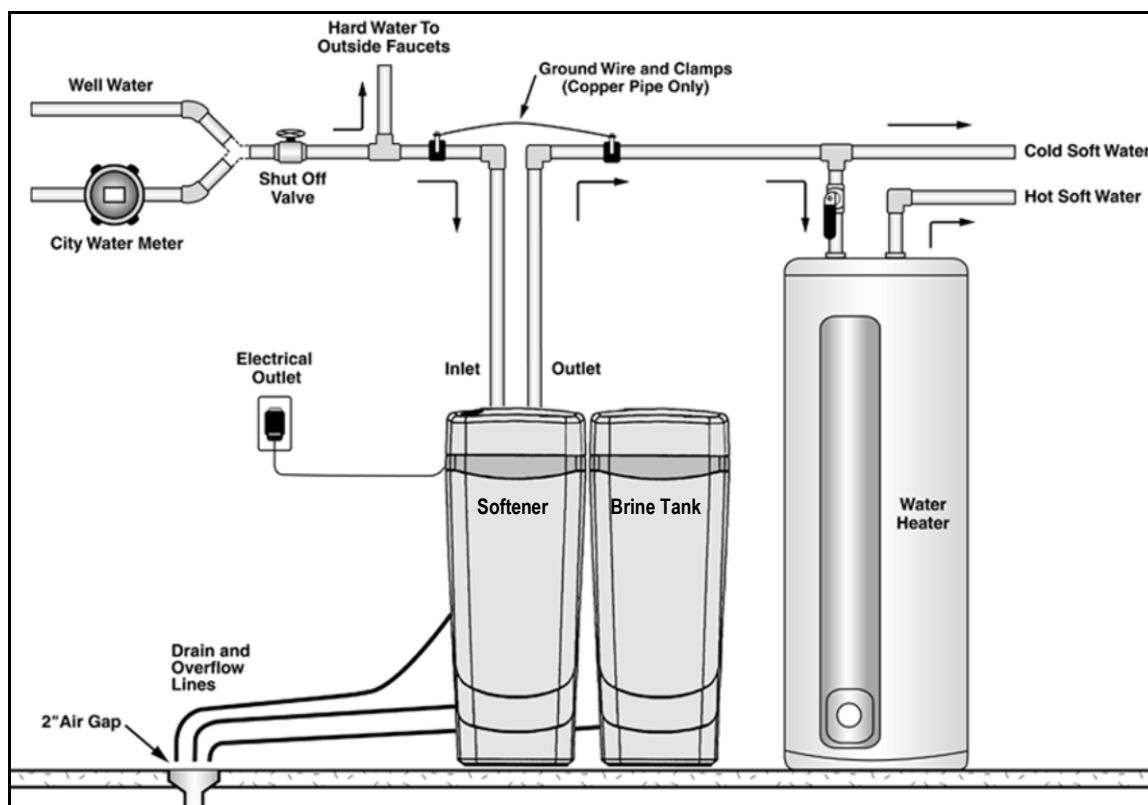

Figure 2: Appliance Placement
- F. Place the appliance in the desired location using Figure 2 as a guide. The diagram in Figure 2 applies to basement, slab, crawl space, and outside installations.